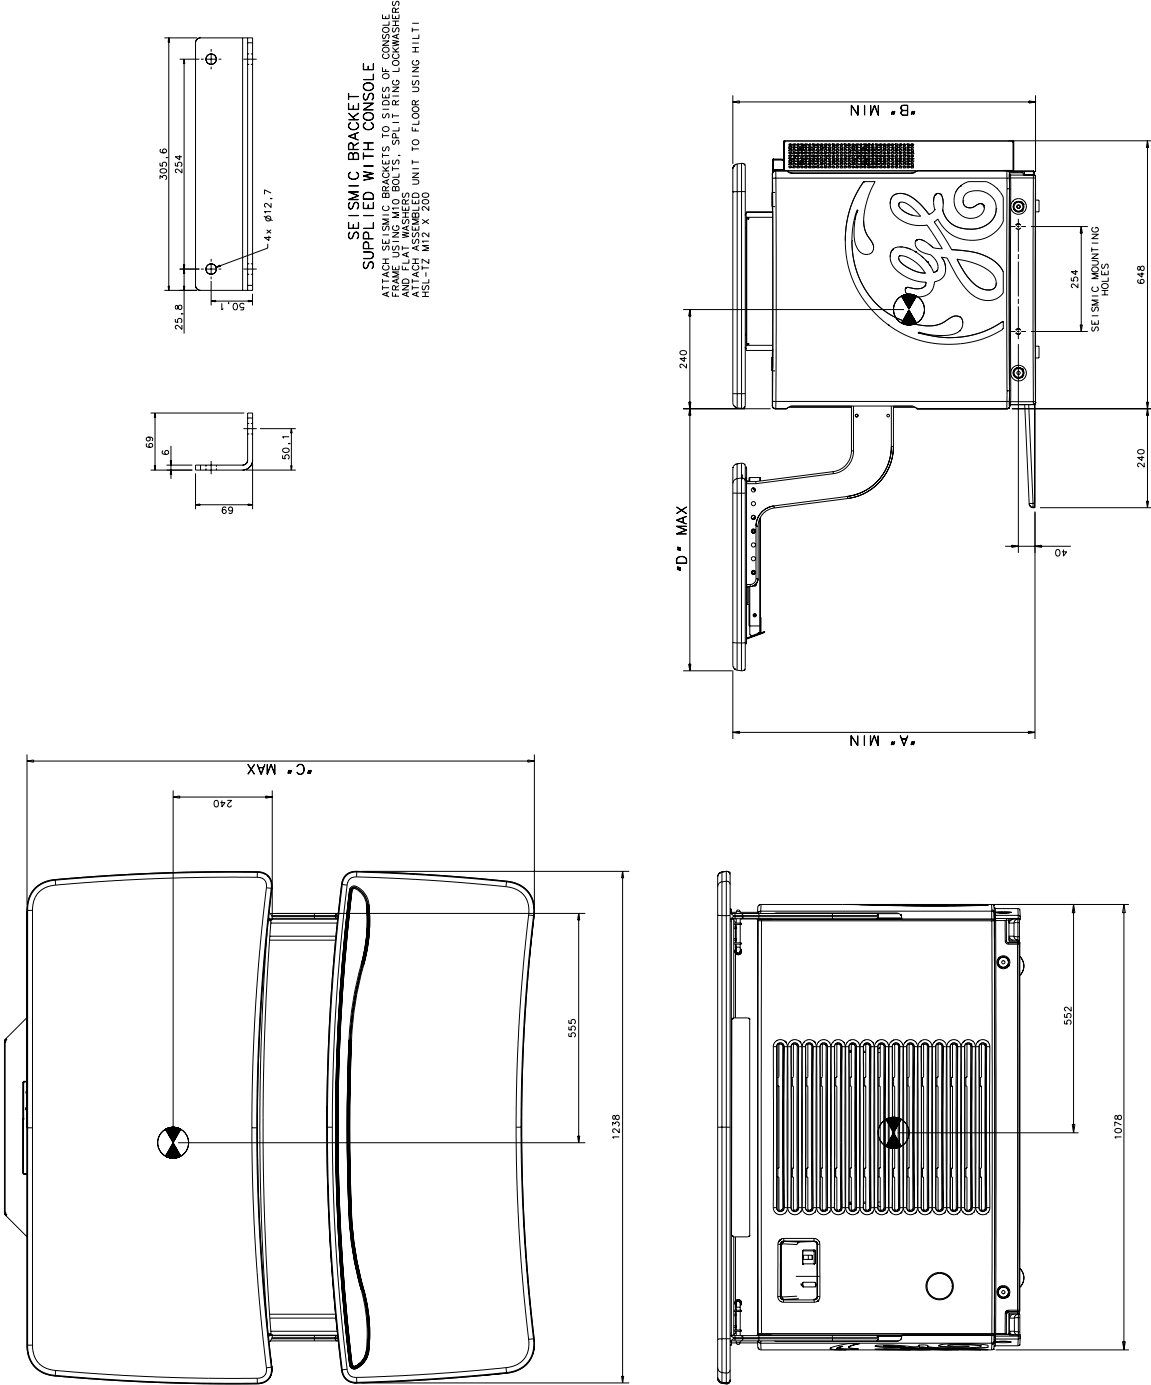

Figure 6-7 Operator's Console
- Operator's Console/Computer: Figure 6-7